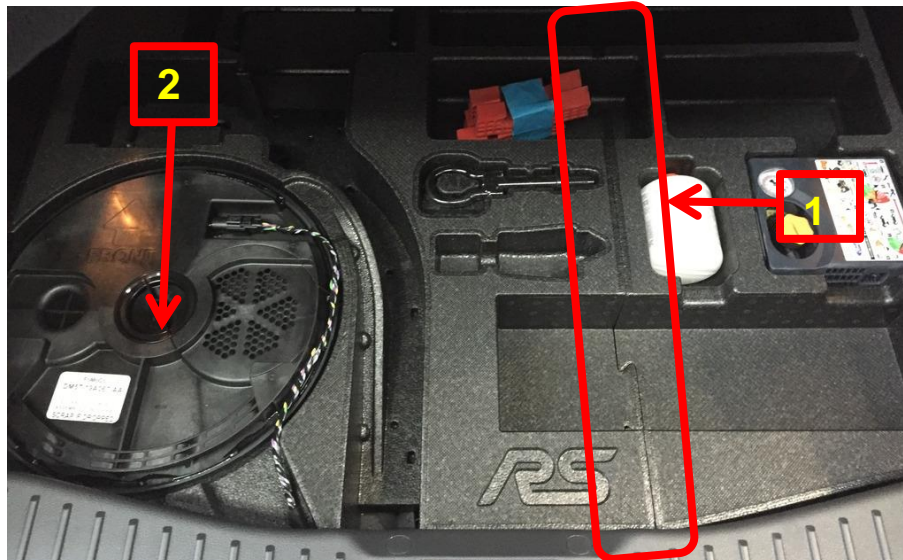

Figure 1
2. Remove the boot carpet to expose the foam tray (See Figure 1 below)
3. Lift out the foam tray RHS half by separating it at the joint (1)
4. Unscrew the sub-woofer centre nut (2), disconnect cable and lift the sub-woofer out.